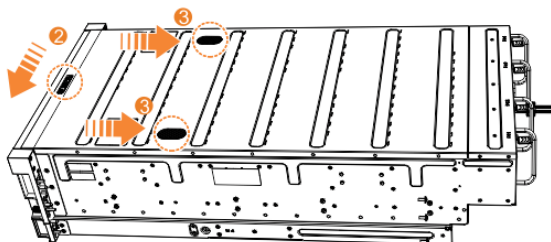

Figure 125. Replacing the top cover
7. Push the cover release lever to the side (2) as shown in Figure 125 on page 177.
8. Slide the cover towards the back of the enclosure (3) back until it stops, as shown in Figure 125 on page 177.